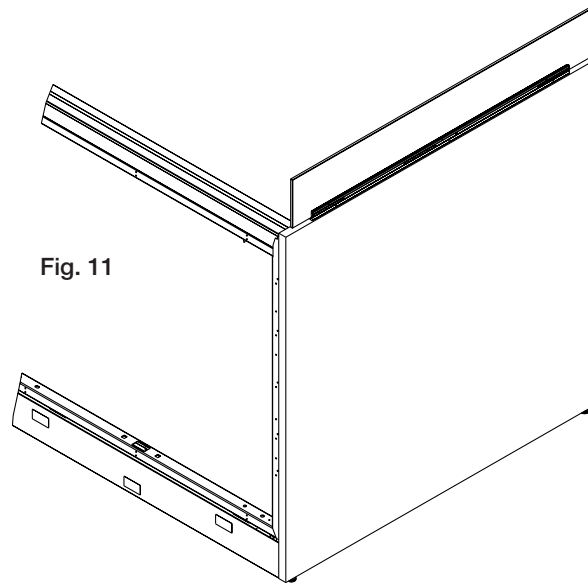

Fig. 11
11. Remove the liners from all pieces of the preinstalled tape. (**Figs. 11 and 11.1**)